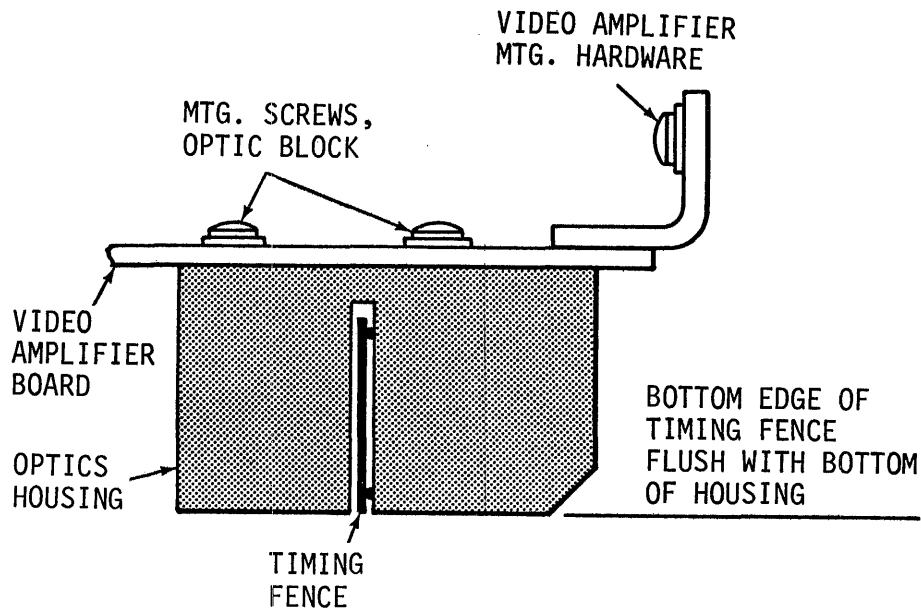

Figure 5-25. FENCE ADJUSTMENT AND OPTICS HOUSING
1. Centering Timing Fence in Slot of Single Track Optical Pickup (Figure 5-25)
- c. Make sure that when the fence is positioned in the middle of the slot that the bottom of the fence is in the same plane with the bottom surface of the optical pickup housing (Fig. 5-25).